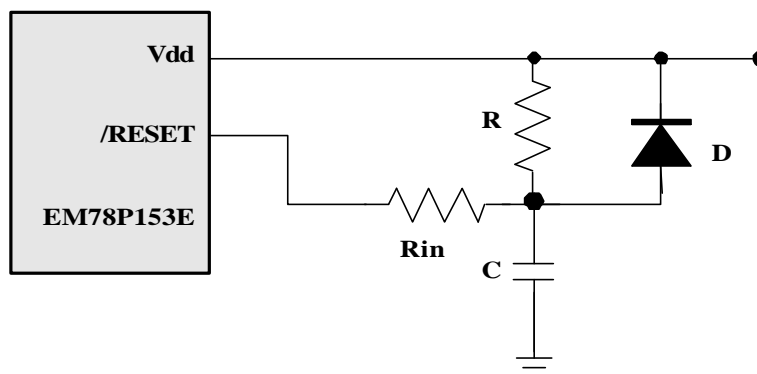

Fig. 17 External Power-Up Reset Circuit
The circuit shown in Fig 17 implements an external RC to produce the reset pulse. The pulse width (time constant) should be kept long enough for Vdd to reach minimum operation voltage. This circuit is used when the power supply has slow rise time. Because the current leakage from the /RESET pin is about $\pm 5\mu\text{A}$, it is recommended that R should not be great than 40 K. In this way, the voltage in pin /RESET will be held below 0.2V. The diode (D) acts as a short circuit at the moment of power down. The capacitor C, will discharged rapidly and fully. RI, the current-limited resistor, will prevent high current discharge or ESD (electrostatic discharge) from flowing to pin /RESET.